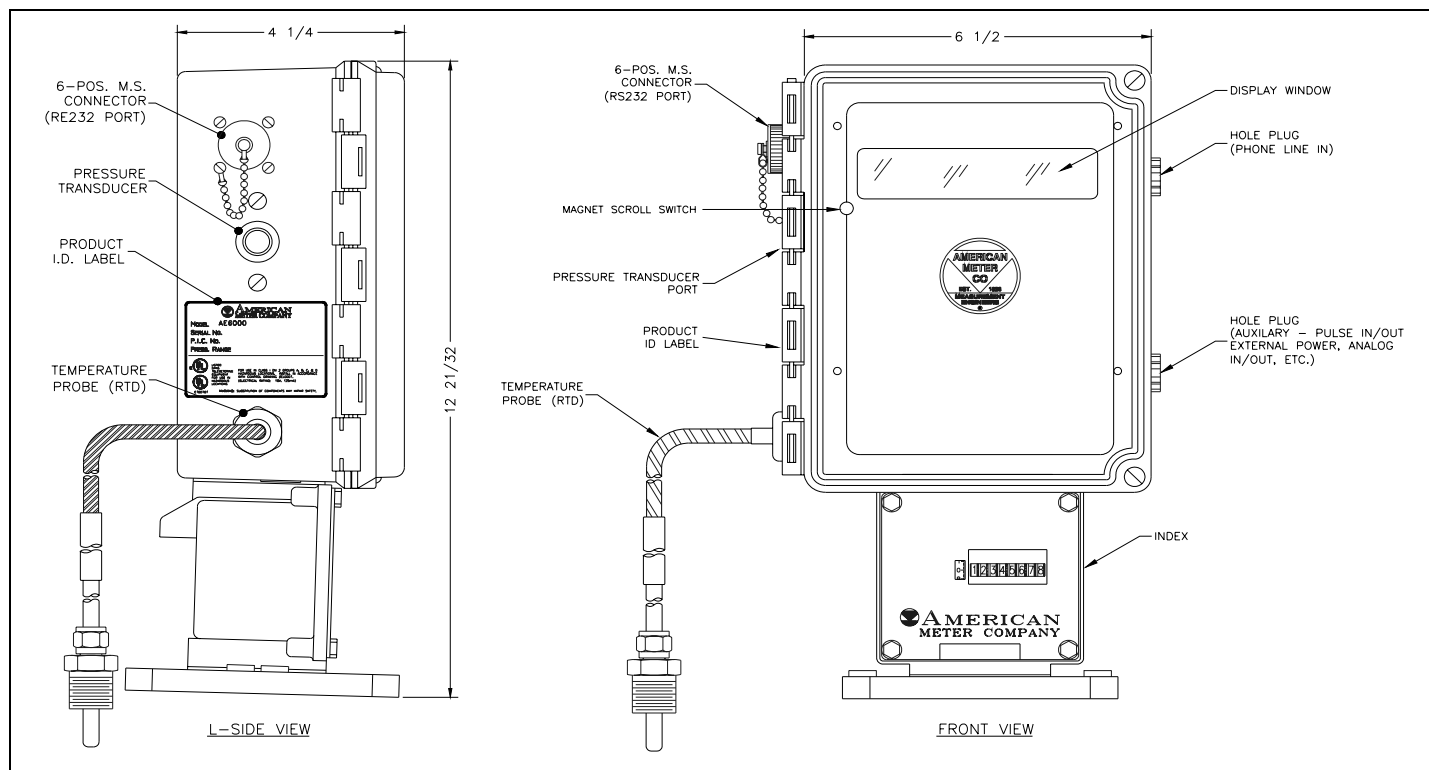

Fig. 1-1 : 6000 exterior view
2. Open the front door by loosening the upper and lower right hand corner screws or quick release latches of the enclosure and swinging the door out. See Figures 1-1 and 1-2 on page 6.